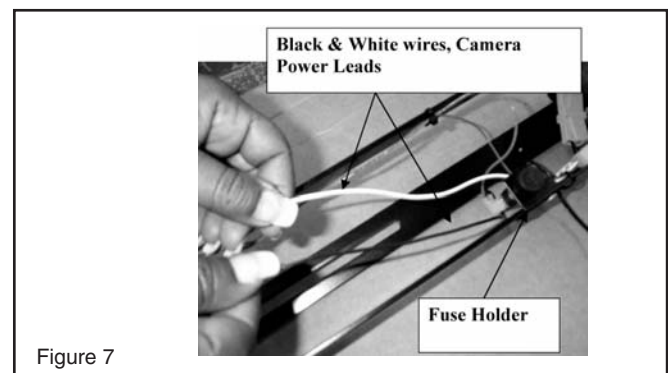

Figure 7
3. Connect the black and white leads coming out of the fuse holder to the camera (Figure 7).